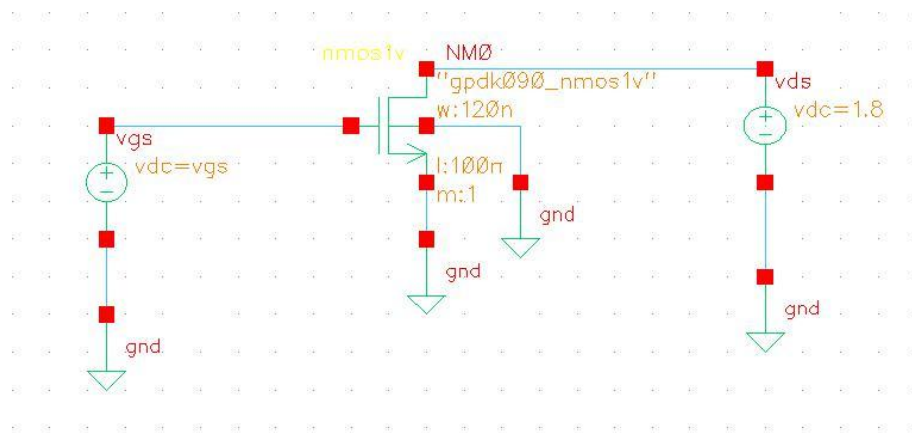

Fig. 2: Schematic of the NMOS DC characterization test bench built in Cadence Virtuoso
6. Wire the connections as shown in the circuit diagram (Fig. 2): Gate → VGS source, Drain → VDS source, Source and Body → gnd.